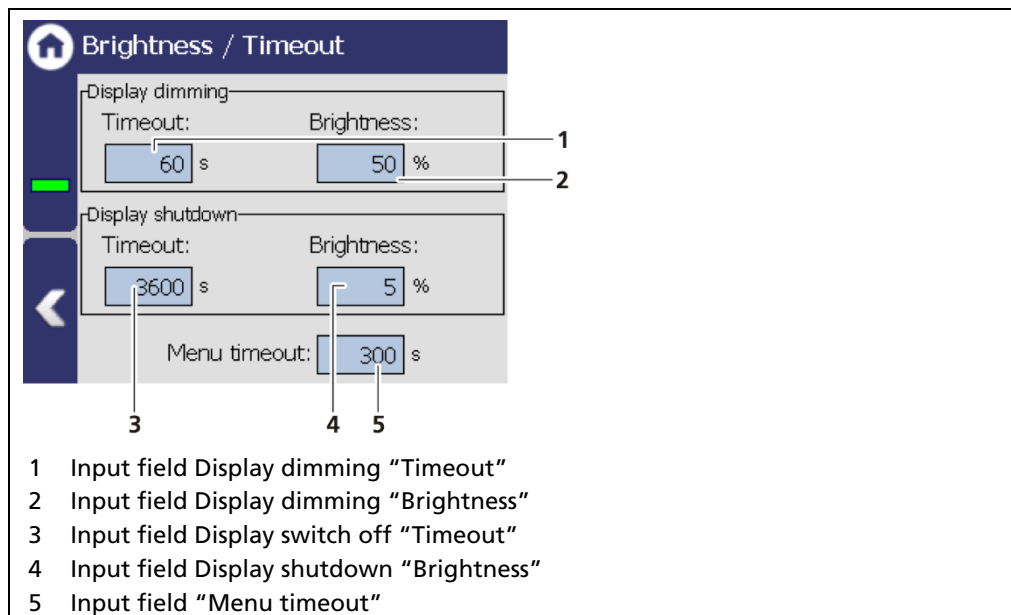

Fig. 33 Brightness / Timeout
Display dimming	In the field Display dimming, clicking the input fields allows the entering of the brightness (Fig. 33, item 2) in percent, that is set after expiry of the time (Fig. 33, item 1).
Display shutdown	In the field Display shutdown, clicking the input fields allows the entering of the brightness (Fig. 33, item 4) in percent, that is set after expiry of the time (Fig. 33, item 3).
Menu timeout	Under "Menu timeout" clicking on the input field (Fig. 33, item 5) changes the time period (seconds) in which the menu view changes to the standard view.